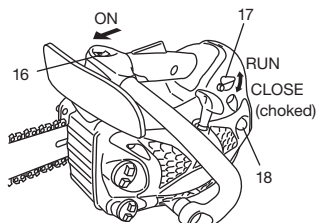

Fig. 10
Starting (Fig. 10, 11)
1. Set ignition switch (16) to ON position.
*Push priming bulb (18) several times so that fuel flows through bulb into carburetor. (If so equipped) (Fig. 10)
2. Push the choke lever (17) down to choked position. This will automatically lock the throttle in starting position. (Fig. 10)
3. Pull recoil starter briskly, taking care to keep the handle in your grasp and not allowing it to snap back. (Fig. 10)
4. When you hear the engine want to start, with the safety trigger (19) pressed pull throttle trigger (20). This will release the throttle from starting position to run position and will automatically return the choke lever to run position. (Fig.10, 11)